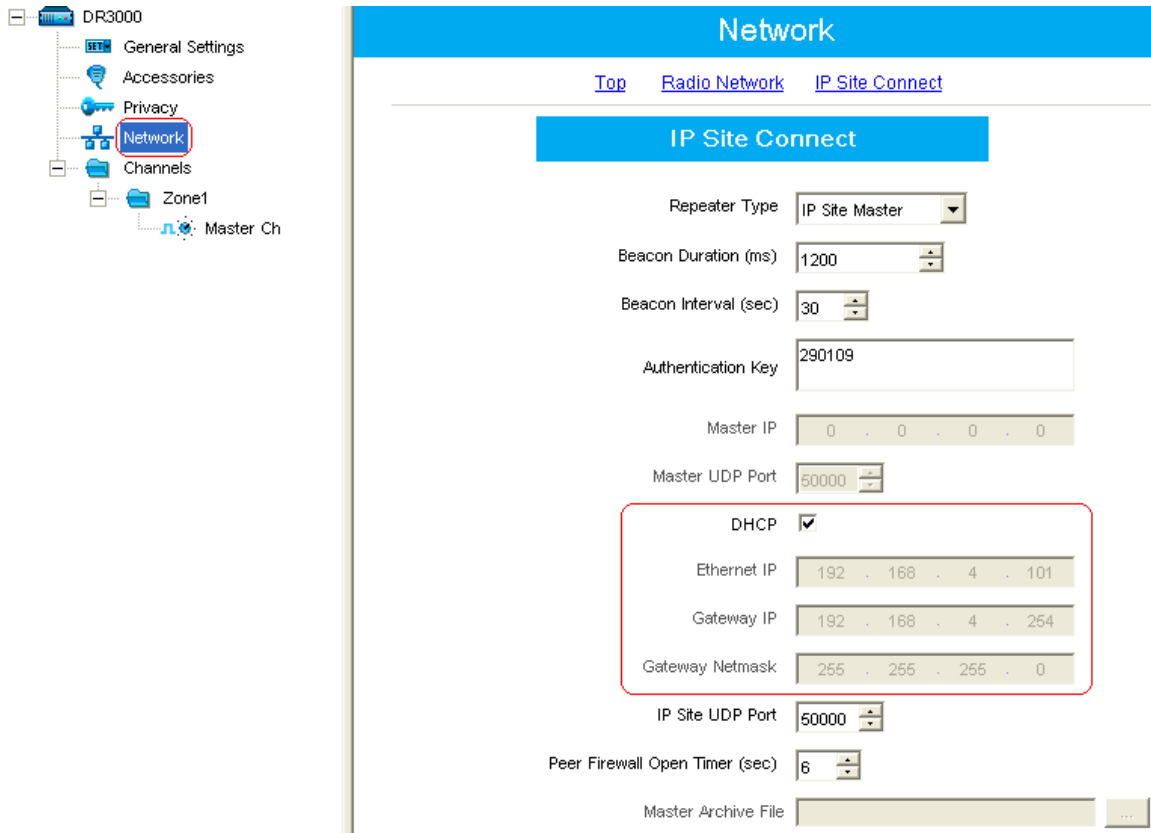

Figure 9.8
- 9) For this system configuration, since all Peer repeaters and RDAC applications address the Master repeater using the WAN address of the LAN 1 router (i.e. 10.7.4.117) rather than the Master IP address (i.e. 192.168.4.101), then for certain routers it may be possible for the Master repeater to be configured with a dynamic IP address as shown in Figure 9.8 below. The Master Ethernet IP, Gateway IP and Gateway Netmask will then be assigned by the DHCP server and it will be the responsibility of the WAN 1 router to ensure that all incoming packets for the Master repeater get forwarded to the Master repeater's dynamic IP address. Note: not all routers are able to support 'Port Forwarding' to dynamic IP addresses, and even where this is possible, this is not a configuration which is recommended.